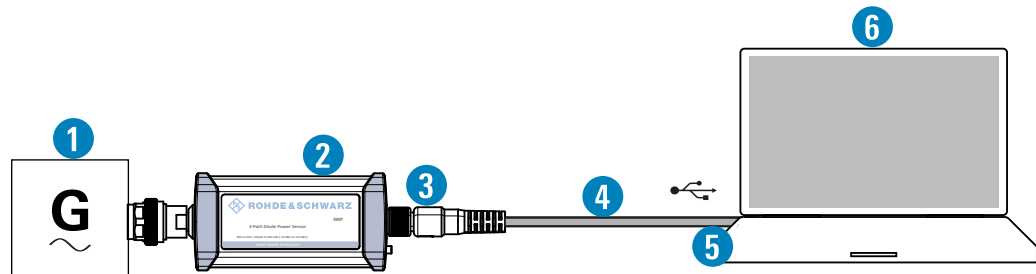

Figure 3-1: Setup with an R&S NRP-ZKU cable
1. Connect the cables as shown in Figure 3-1 :